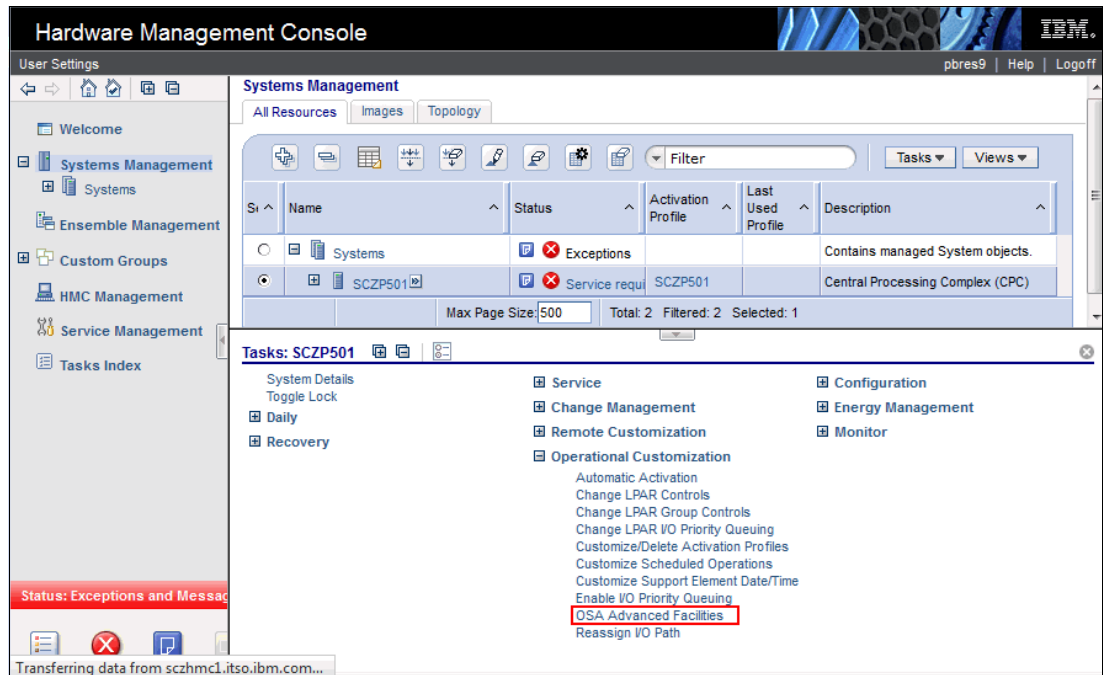

Figure 14-1 OSA/SF on HMC: Selecting OSA Advanced Facilities
1. Start OSA/SF on the HMC by opening OSA Advanced Facilities. Select the CPC for the OSA in which you want to customize, then select the **Operational Customization** → **OSA Advanced Facilities** task (Figure 14-1).